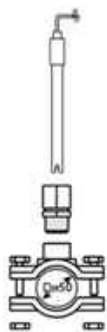

Fig. 3
- a) Saddle for the pH sensor (Fig. 3): Before installation, drill a hole in the top of the pipe with size approx. 12 mm. and make sure the sensor can pass through. Install the saddle so that the hole in the pipe coincides with the sensor connection of the saddle. (Saddle needs to be purchased separately)
a) pH传感器鞍座 (图3)：安装之前，在管道顶端钻一个尺寸大约12毫米的孔，确保传感器可以穿过。安装鞍座，以便管道上的孔与鞍座的传感器连接相符合。(客户自己购买鞍座)